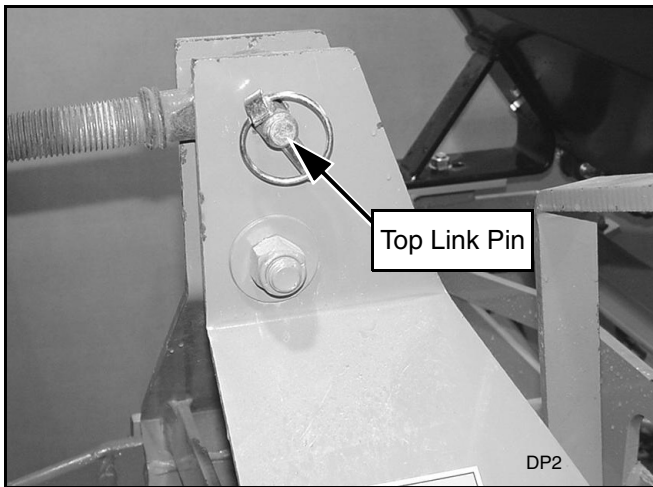

Figure 5. Top Link Attached to Overseeder
2. Attach the tractor's top link to the upper mast of the overseeder. Secure with high-strength top link pin and retaining pin provided with the tractor. See Figure 5.